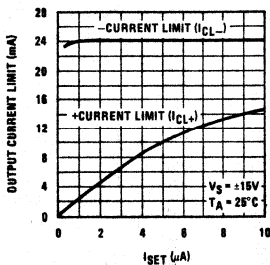

FIGURE 1. Output Current Limit vs ISET
**Output Voltage Swing vs ISET:** For a desired output voltage swing the value of the minimum load depends on the positive and negative output current capability of the op amp. The maximum available positive output current, (ICL+), of the device increases with ISET whereas the negative output current (ICL-) is independent of ISET. Figure 1 illustrates the above.